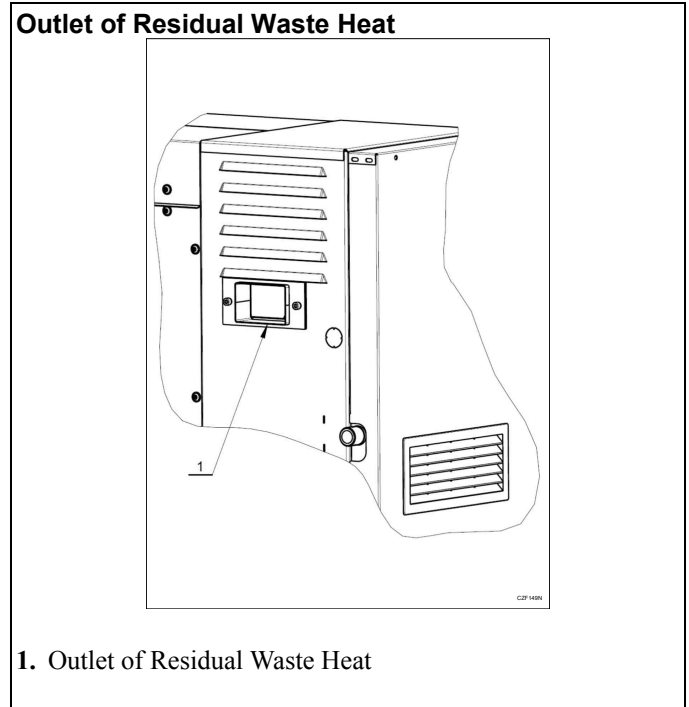

Figure 23
- In the rear wall of the right stand, there is an outlet of residual waste heat (1) - (Figure 23).